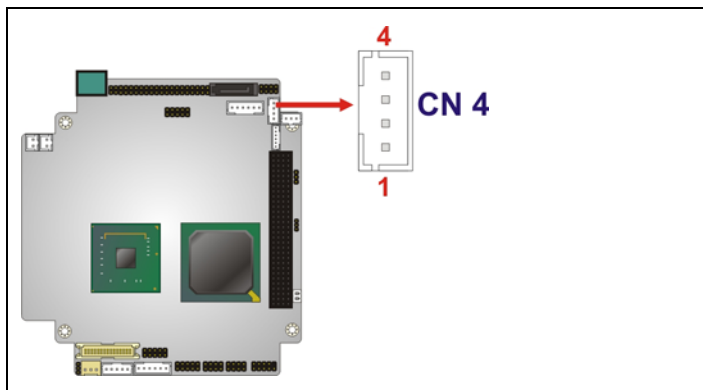

Figure 3-18: RS-422/485 Serial Port Connector Location
- CN Location:** See **Figure 3-18**